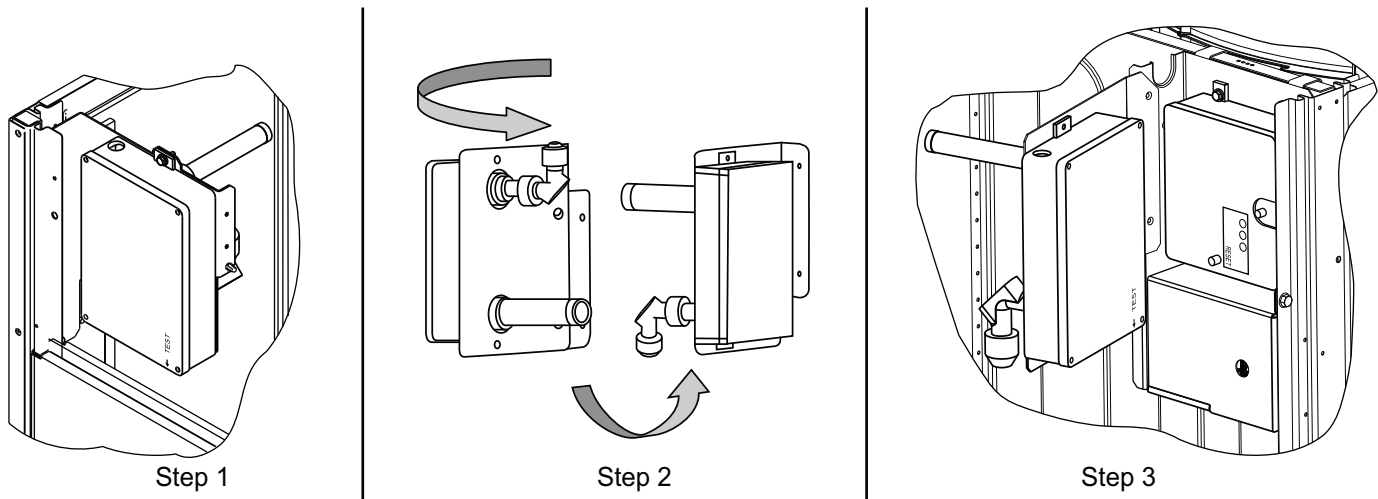

Fig. 84 — Completing Installation of Return Air Smoke Sensor
1. Unscrew the two screws holding the return-air smoke detector assembly. See Fig. 84, Step 1.
3. Turn the assembly 90 degrees and then rotate end to end. Make sure that the elbow fitting is pointing down. See Fig. 84, Step 2.
4. Screw the sensor and detector plate into its operating position using screws from Step 1. See Fig. 84, Step 3.